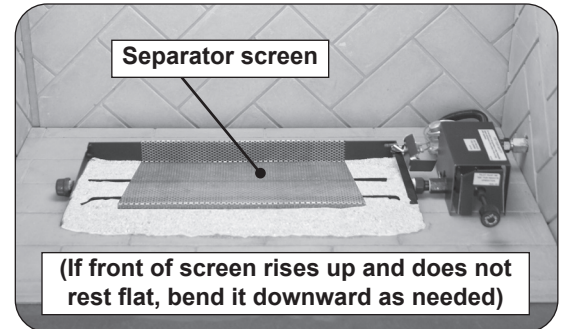
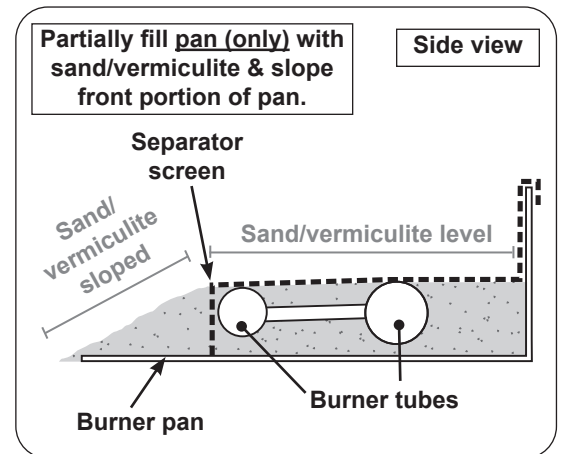

Fig. 21-2 Place screen
Fig. 21-3 Sand/vermiculite & screen detail
- Slope the sand/vermiculite in the front portion of the pan (see Fig. 21-3).
- Place the separator screen over the sand/vermiculite and pan. The rear of the screen must hook over the rear of the burner pan as shown in Fig. 21-2 and Fig. 21-3.